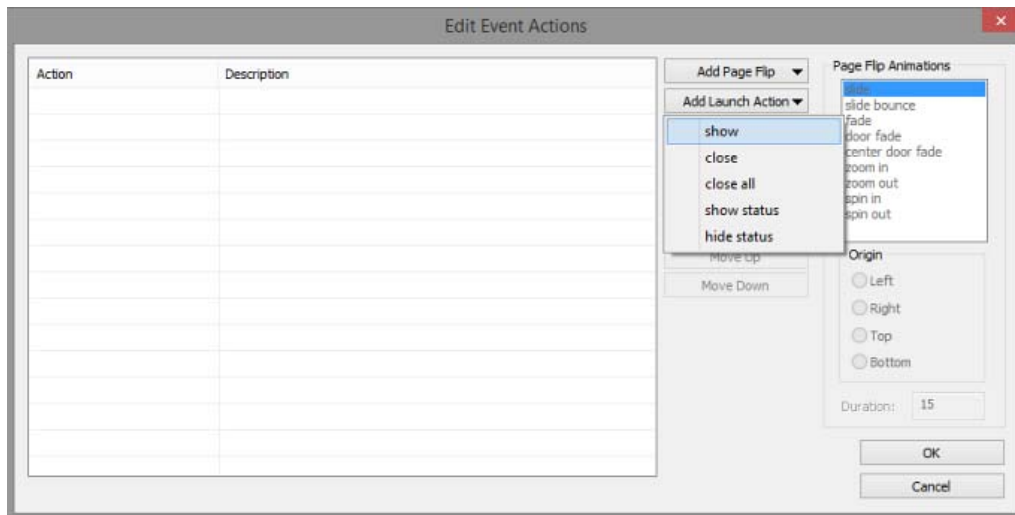

FIG. 384 Edit Event Actions dialog - Add Launch Action drop-down menu
4. Click **Add Launch Action** and select a launch action type from the drop-down menu (FIG. 384):